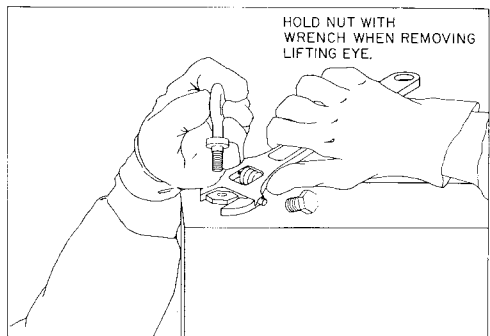

Fig. 26—Replacing Lifting Eye With Cap Screw
5.12 Remove the lifting eyes and replace them with the brown cap screws furnished with the cabinet (Fig. 26). When removing the lifting eyes, hold the nut with a wrench to keep the nut from turning and disturbing the adhesive. The adhesive is a water seal.